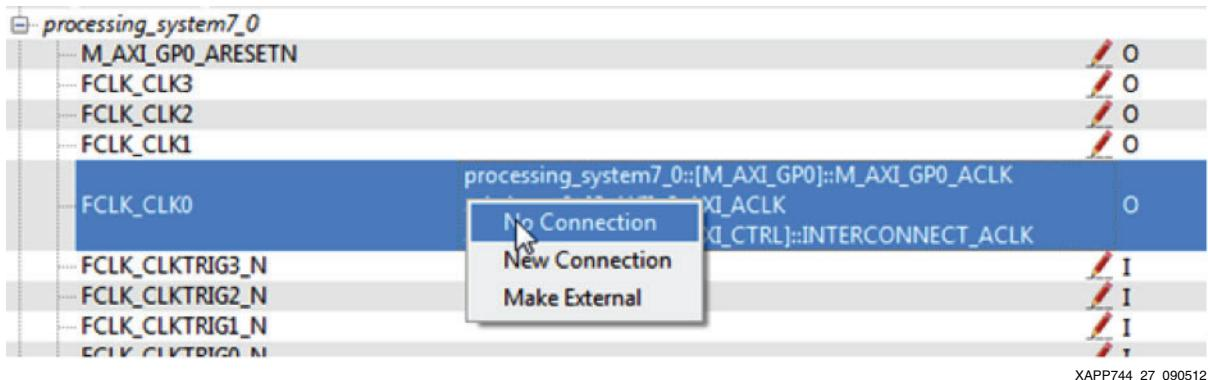

Figure 27: Setting No Signal Connection
11. In the XPS tool, by default, the entire design is driven by the FCLK_CLK0 signal. Right-click FCLK_CLK0 under processing_system7_0 and select **No Connection** as shown in Figure 27. The clock and reset signals are driven through the testbench in ISIM.